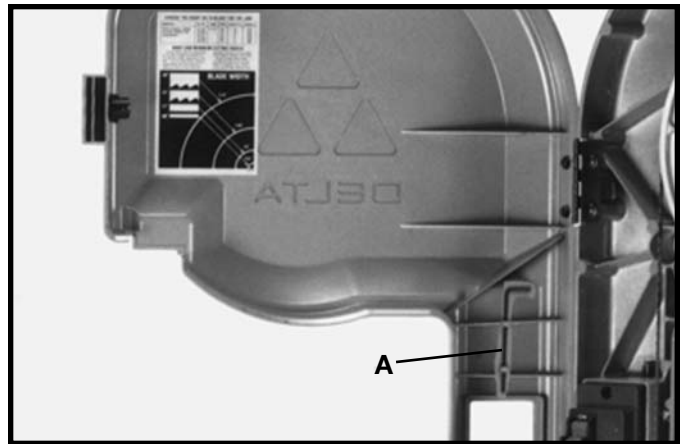

Fig. 39
The hex wrench (A) supplied with your band saw can be stored inside the wheel cover, as shown in Fig. 39.